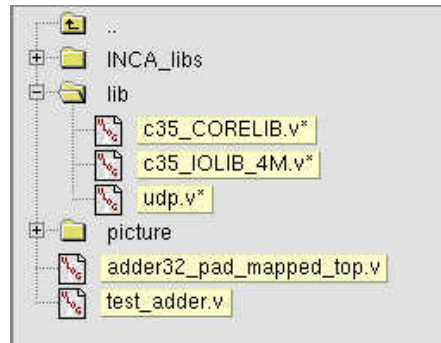

Figure 5-5 Selection of all the source files.
- To compile all the source files, select all the source files as figure 5-5, and then click on